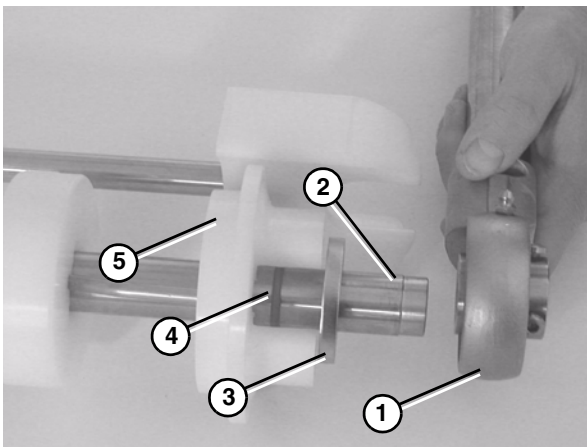

Figure 71
3. Attach flanged pucks (**Figure 71, item 5**), the O-rings (**Figure 71, item 4**), the washers (**Figure 71, item 3**), and the bearing shaft assemblies (**Figure 71, item 1**) onto the idler shaft (**Figure 71, item 2**).